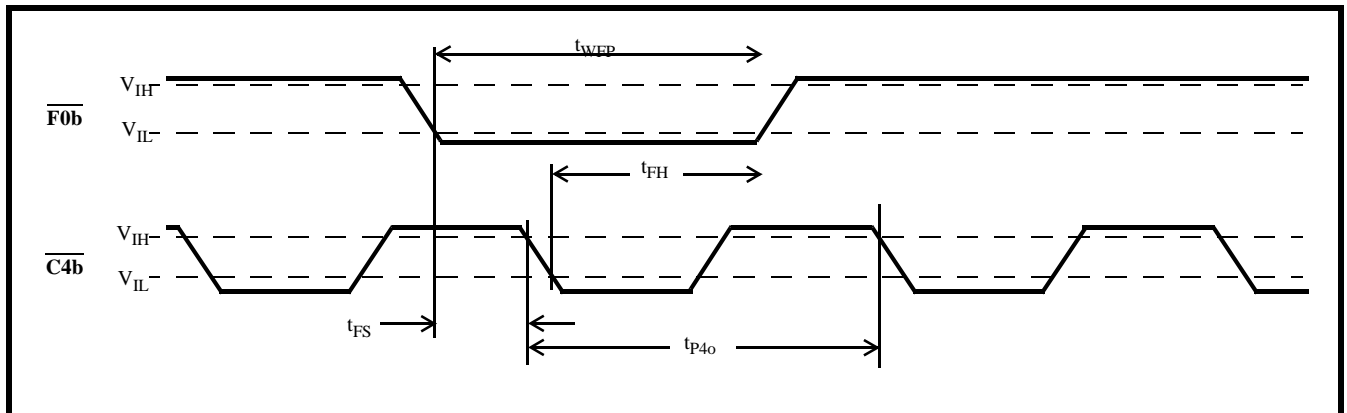

Figure 18 - External Inputs on C4b and F0b for the DPLL #2
**AC Electrical Characteristics†** - Voltages are with respect to ground ( $V_{SS}$ ) unless otherwise stated. (Refer to Figure 18)